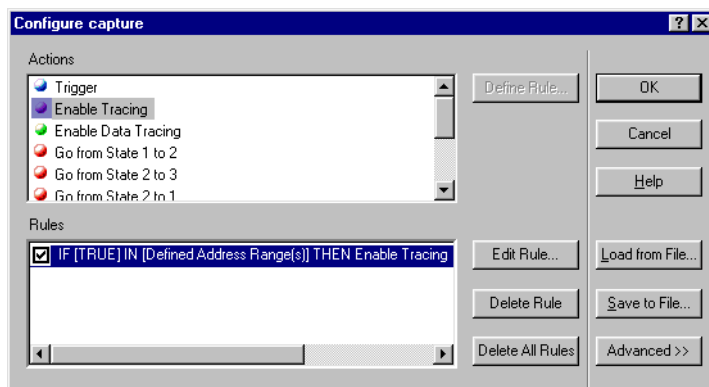

Figure 8-59 Completed Configure capture dialog box
- Click **Finish** to complete the rule. The Configure capture dialog box shown in Figure 8-59 now has one rule in the Rules list.